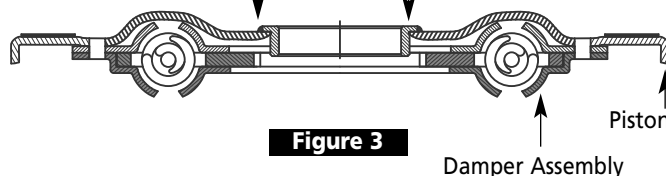

Figure 3
5. Place repair sleeve **AL-DS-1** in the piston damper assembly, making sure the flange is pressed firmly against the machined surface, as shown in *Figure 3*.
6. Weld 360° around the flange OD. A GTAW (TIG) weld is preferred to ensure a strong, flat and leak-proof weld (see *Figure 3*).